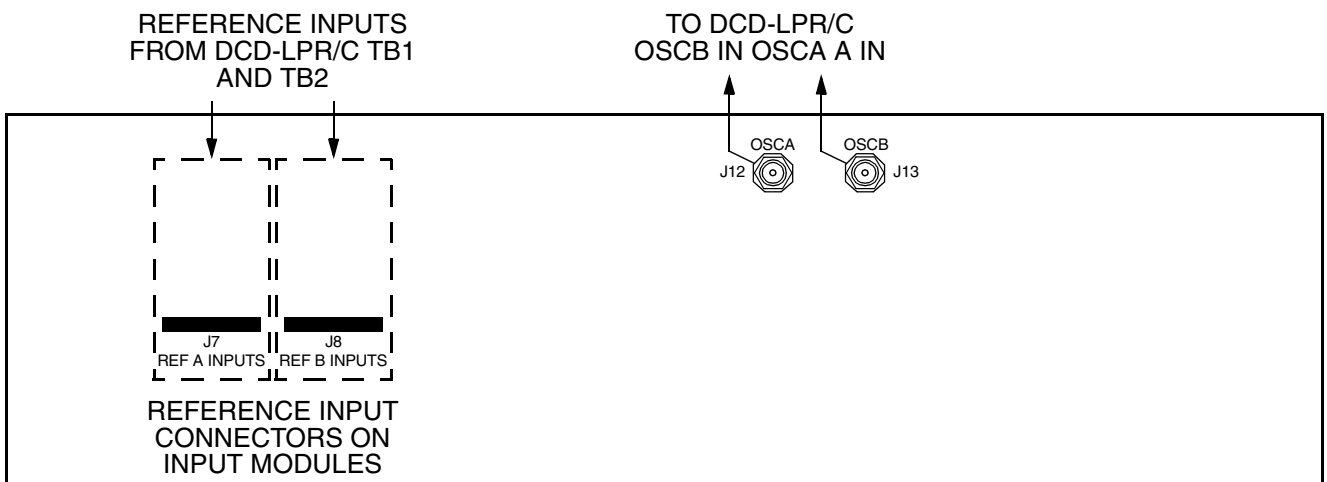

Figure 13. DCD-LPR/C Connections to DCD-521/C CEP
3.14 Reference input connections from the DCD-LPR/C connect to the DCD-521/C as any other reference input. Figure 13 shows connections between the DCD-LPR/C and the DCD-521/C.